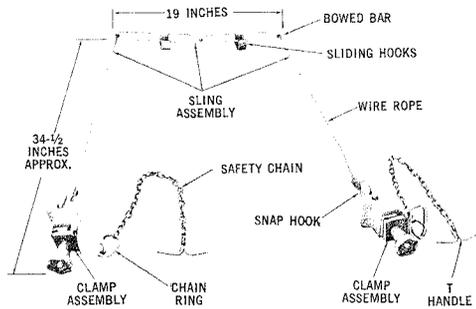

Fig. 15 — B Ladder Support
- 6.15 The *B Ladder Support* consists of a sling assembly and two clamp assemblies which are grooved to fit the strand. The clamps can be attached to the strand of either lashed or ring-supported cables, without disturbing the cable. The clamps are equipped with safety chains to prevent them from falling in the event of accidental disengagement. The sling assembly consists of a bowed bar equipped with two sliding hooks and two wire ropes, one at each end of the bar. Each wire rope terminates in a snap hook which connects the rope to a clamp assembly. The B Ladder Support is shown in Fig. 15.